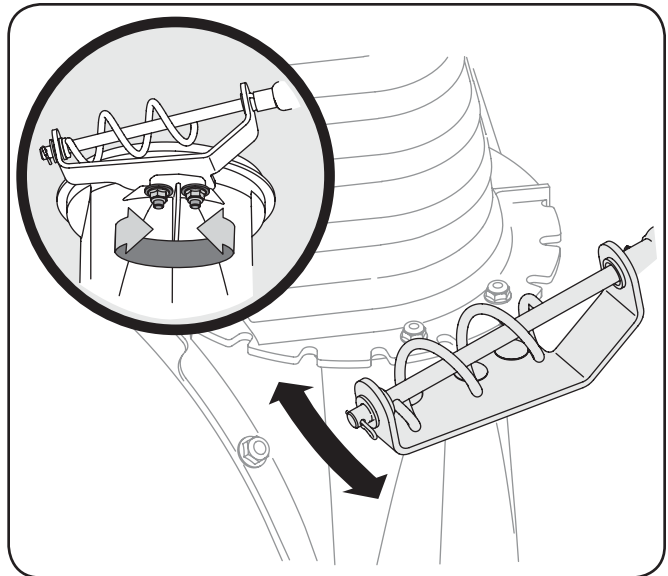

Figure 6-5
2. Remove the frame cover from the underside of the snow thrower by removing the self-tapping screws which secure it. Refer to Figure 6-5.
1. Loosen the two nuts which secure the chute bracket and reposition it slightly. See Figure 6-5.